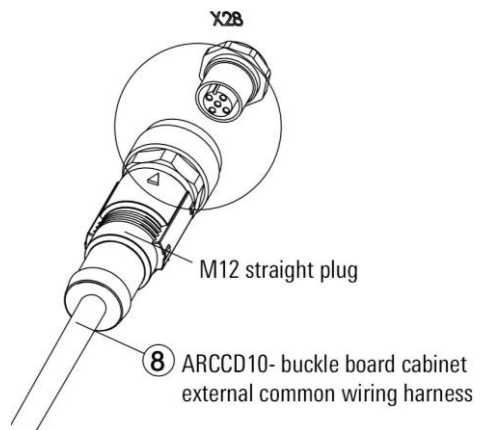

Figure 2-4 M12 interface location diagram
- Step5. Connect one end of the ⑧ ARCCD10- buckle board cabinet external common wiring harness with an M12 straight plug to the X28 interface of the cabinet (refer to Figure 2-4), and the other end connected to ⑨ integrated spring terminal block.